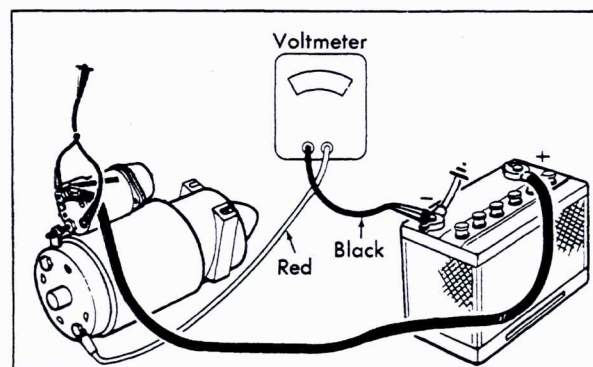

Fig. 6-13 Ground Circuit Test
2. Connect test leads as shown in Fig. 6-13.
3. Connect starter solenoid remote switch as shown in Fig. 6-13.
4. Push pinion away from stop retainer as far as possible and use feeler gage to check clearance between starter motor pinion and pinion stop retainer, Fig. 6-13. Clearance should be .010 inch to .140 inch when pinion is in cranking position.